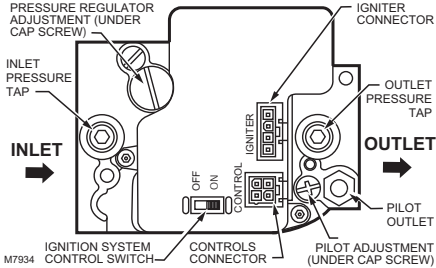

Fig. 4. Mount so gas flows in the direction of the arrows.
- 1. Mount the control so the gas flow is in the direction of the arrow on the bottom of the ignition system control, as shown in Fig. 4.